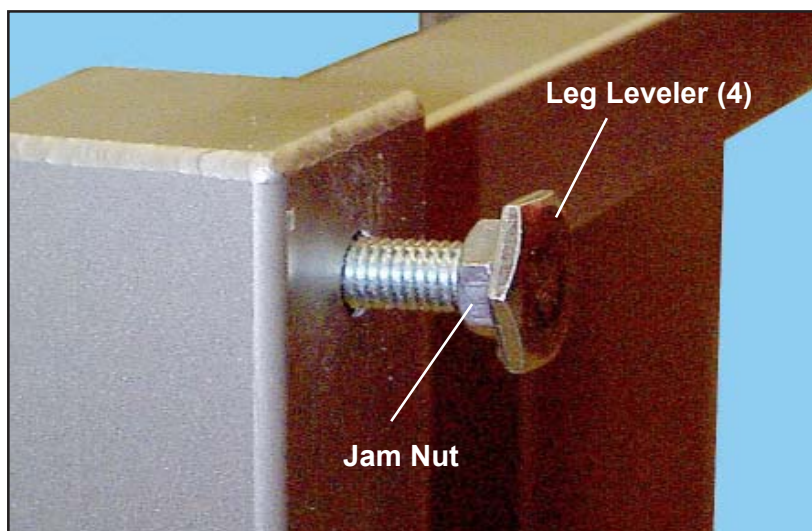

Figure 4. Leg Leveler/Jam Nut in Pallet Bolt Hole
5. Screw the leg levelers about half-way into the pallet bolt holes (Figure 4).